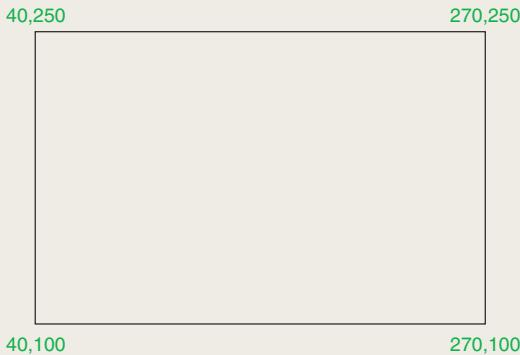

Fig. 2.28 Exercise 1
1. Using the **Line** tool construct the rectangle Fig. 2.28.